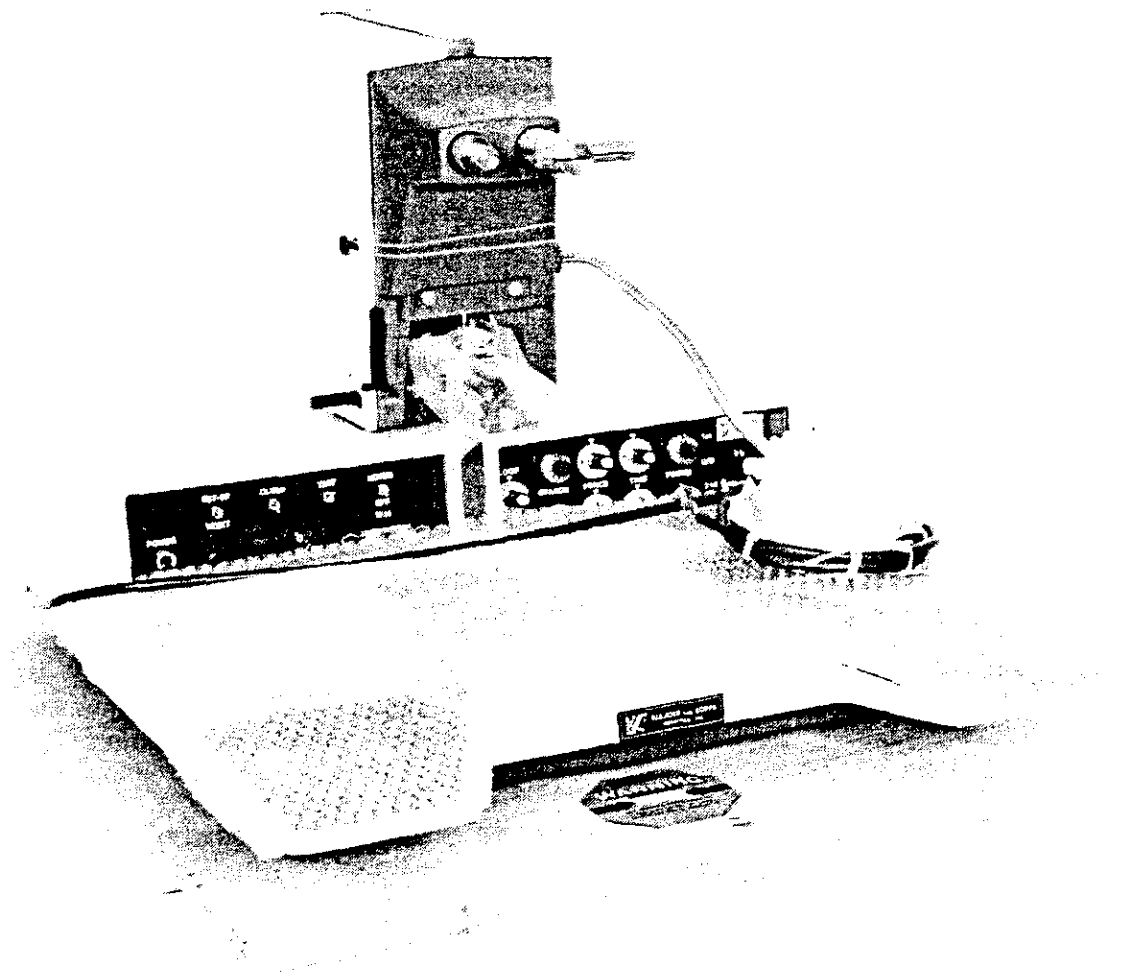

Figure 1-2 Wedge Bonder on Shipping Board
Step 10 Strip off the bubble sheet from the Wedge Bonder base (see Figure 1-2).
Step 11 From the bottom of the shipping board remove the shipping screws, spacers and shipping board from the base of the Wedge Bonder (see Figure 1-2) using a flat, 9/16" wrench.
Step 13 Remove the protective covering of the area light by cutting the twine at the ends of the woven sponge sleeve and slipping the sleeve off (see Figure 1-2).